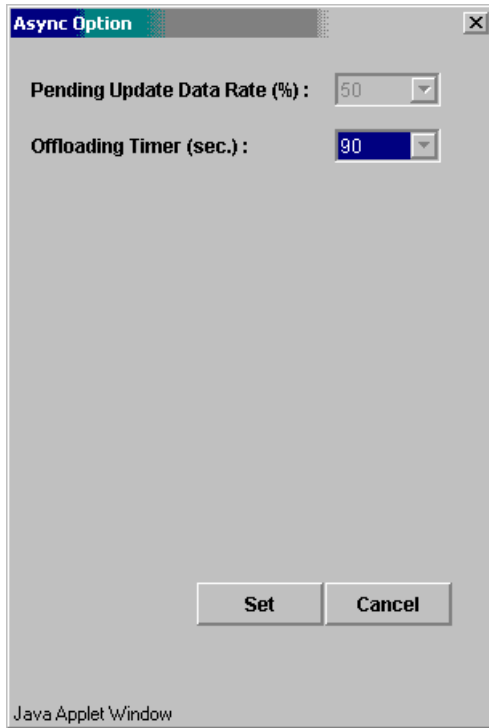
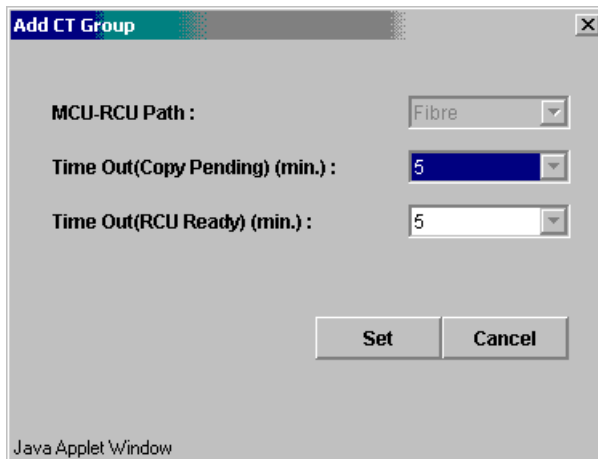

Figure 3.13 Setting the Async Options
Figure 3.14 Adding the Consistency Groups
7. If you plan to create TrueCopy Asynchronous pairs with P-VOLs in this MCU, configure the Async options (see Figure 3.13) (see section 4.3.1 for instructions), and add the desired consistency group(s) to the MCU (see Figure 3.14) (see section 4.3.2 for instructions).
9. Repeat steps (3)-(8) for each subsystem which will function as a TrueCopy MCU. After you have configured the MCUs, added the RCUs, and configured the TrueCopy Async options and consistency groups, you are ready to begin TrueCopy pair operations.
Figures 3.13 through 3.16 show the various TrueCopy/ShadowImage configurations which share volumes. TrueCopy supports synchronous and asynchronous operations for shared TrueCopy/ShadowImage volumes.